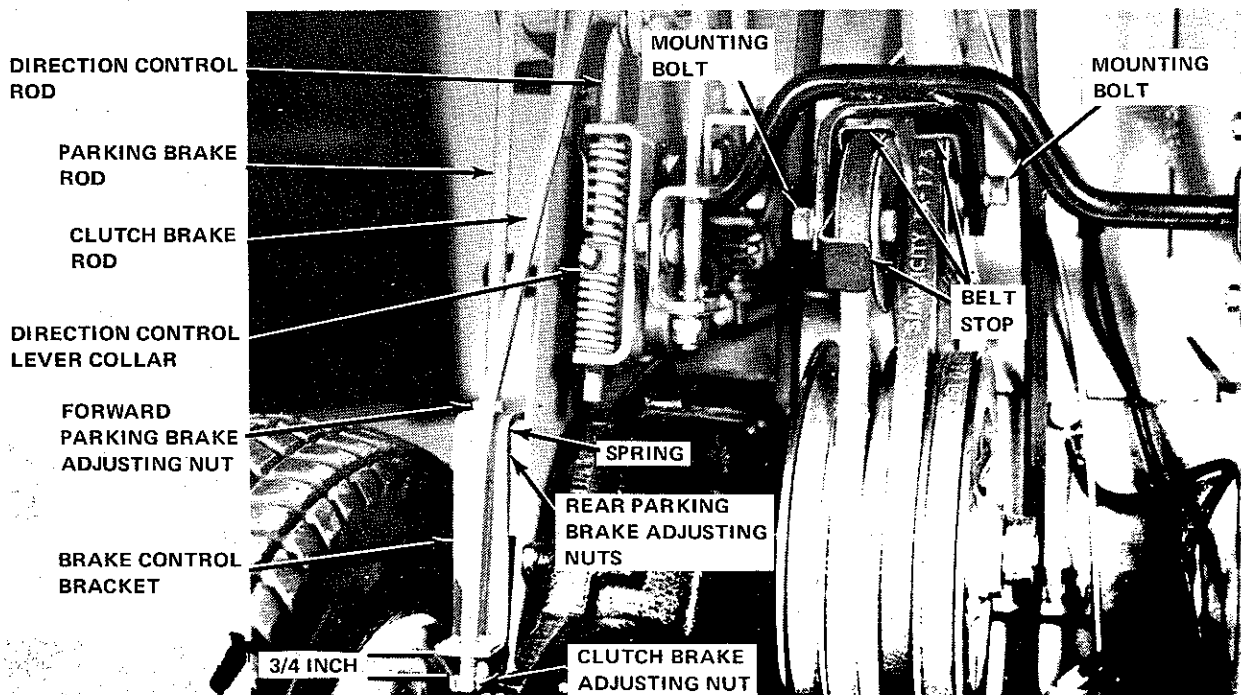

Figure 5-3. Brake and Direction Control Lever Adjustments
When clutch is engaged, the end of the belt stop finger contacting the belt should be 1/16-inch from the belt (Figure 5-3). If clearance is greater or less than 1/16-inch, reposition the belt stop by loosening the respective mounting bolt and adjust accordingly. When directional control lever is in NEUTRAL, belt stops should rub against belts to prevent them from creeping.
A. The clutch brake rod (Figure 5-3) moves forward, as the pedal is depressed, and engages a clutch brake control bracket, which pulls upon a brake band and activates the brake. The distance from a clutch brake adjusting nut at the end of the clutch brake rod to the bracket allows for free clutch pedal travel and must be adjusted to 3/4 of an inch. This adjustment should tighten brake band on drum when clutch pedal is depressed two-thirds of its total travel. If band does not tighten sufficiently, readjust adjusting nut accordingly.
B. The opposite end of the brake control bracket is secured to a parking brake rod (Figure 5-3) that is controlled by a parking brake lever on the right side of the vehicle, below the operator's seat. When the brake lever is pushed downward, the rod and control bracket move forward, tightening the brake band. The parking brake adjusting nuts must be adjusted on the brake control bracket so that the spring is compressed solid when the brake lever is engaged. Then set forward parking adjusting nut to the end of threads and tighten. When the brake lever is in the rearward position, the forward parking brake adjusting nut should be set flush with front of bracket.